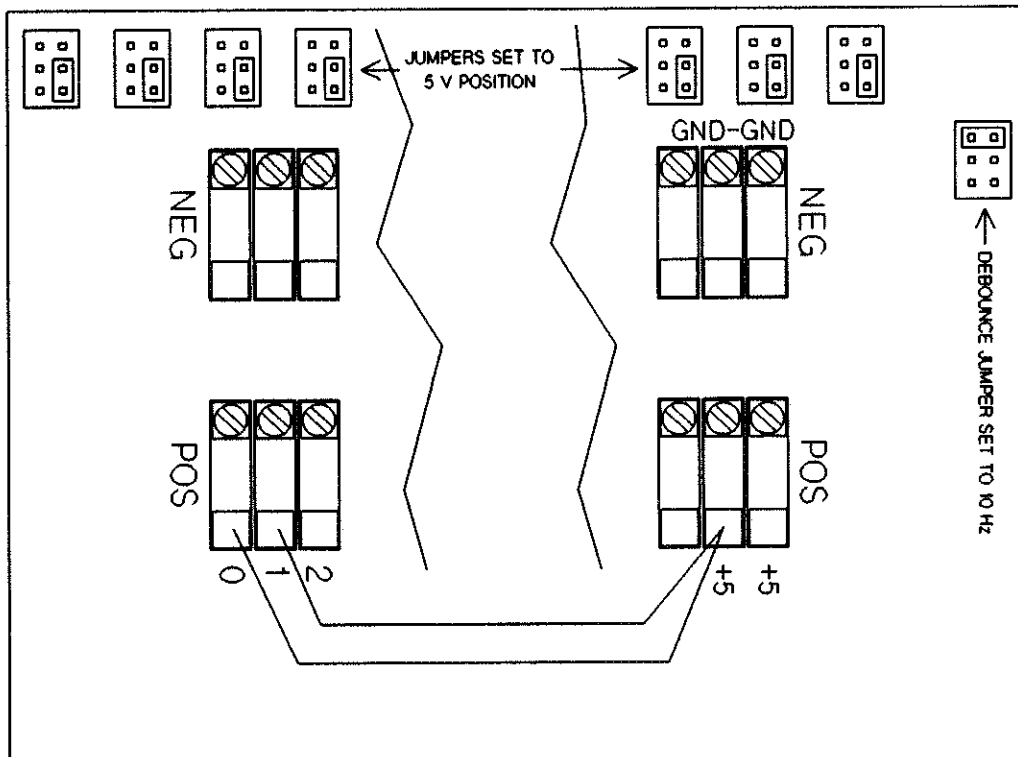

Figure 12-7 All Channel Pattern Test
14. Set all channel inputs high by installing a jumper between the shorted even channel POS (positive) connections and the +5 V connection, and installing a jumper between the shorted odd channel POS (positive) connections and the +5 V connection. The connections are shown in Figure 12-7.